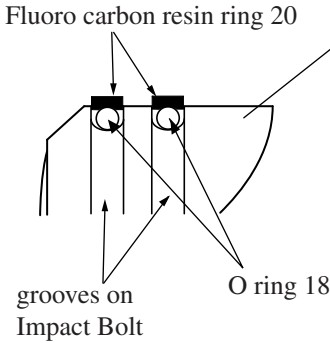

Fig. 31
- 1. After installing fluoro carbon resin ring 20 on impact bolt, the ring comes stretched and its edge come protruding from the groove. (see Fig. 31)